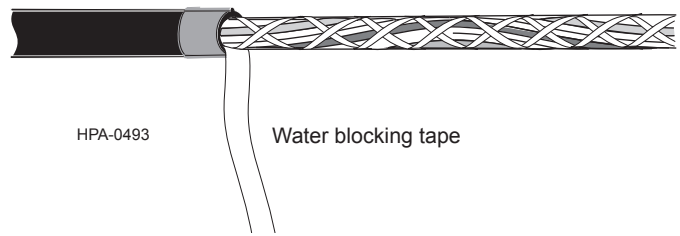

Figure 22
Step 8: Separate the water blocking tape from the cable core to expose the buffer tubes (Figure 22) Use scissors to cut the water blocking tape flush with the ends of the cable sheath.